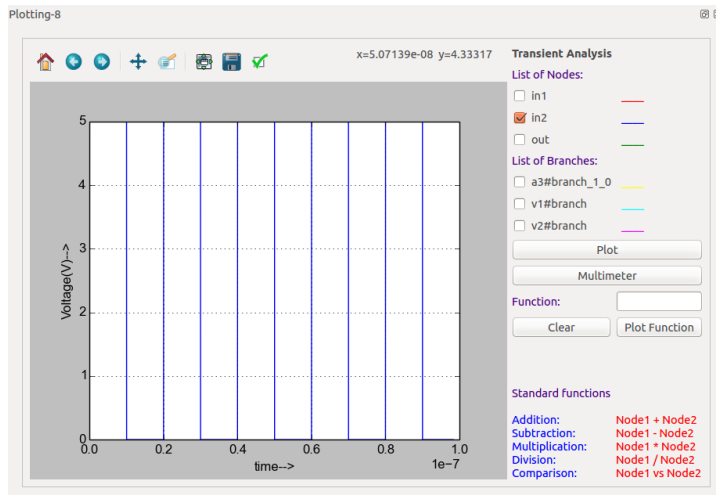
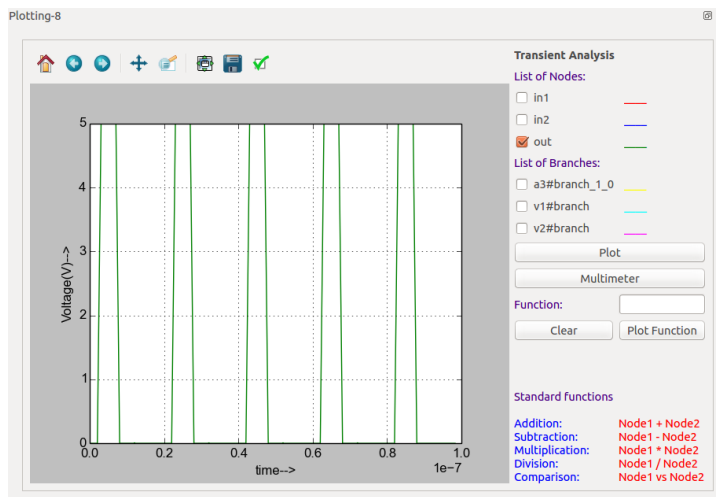

Figure 9.16: Plot of source V2
Figure 9.17: Plot of output
- Now you can see the plot as shown in figure Fig. 9.15 of source input V1, Fig. 9.16 of source input V2 and Fig. 9.17 of output